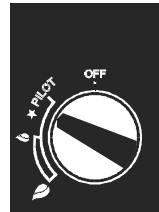

Figure 3 - Ignition Position
4. The arrow should now be pointing to the PILOT position as shown in **Figure 3**.